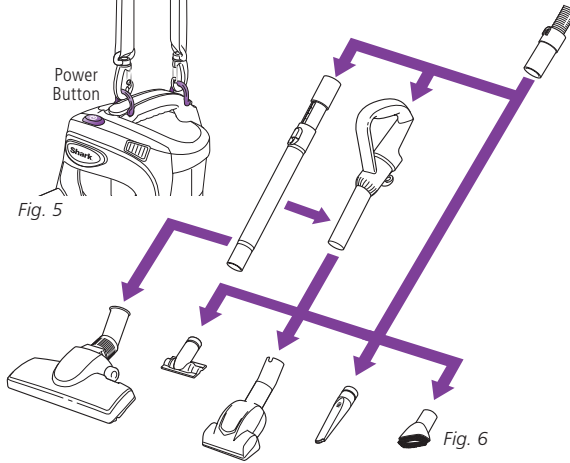

Fig. 6
- 6 Attach the floor kit handle to the flexible hose. Push it in until it is secure. (**fig. 6**)
- 7 Insert the telescopic tube into the end of the floor kit handle. Push it in until it is secure. (**fig. 6**)
- 8 Attach the desired accessory to the end of the flexible hose, floor kit handle or telescopic tube by pushing it in until it is tightly secured. (**fig. 6**)